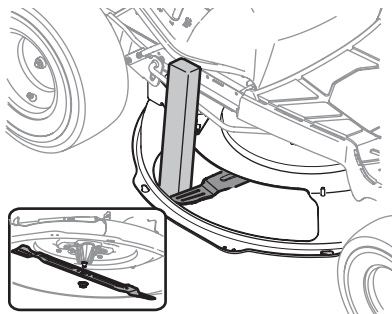

Figure 40
2. Using a block of wood at least 2" x 4" (51 mm x 102 mm), insert it into the deck opening and rotate the blade around until it wedges the wood between the deck opening and the cutting blade (Figure 40).
3. Remove the hex flange nut that secures the blade to the spindle assembly (Figure 40 inset).